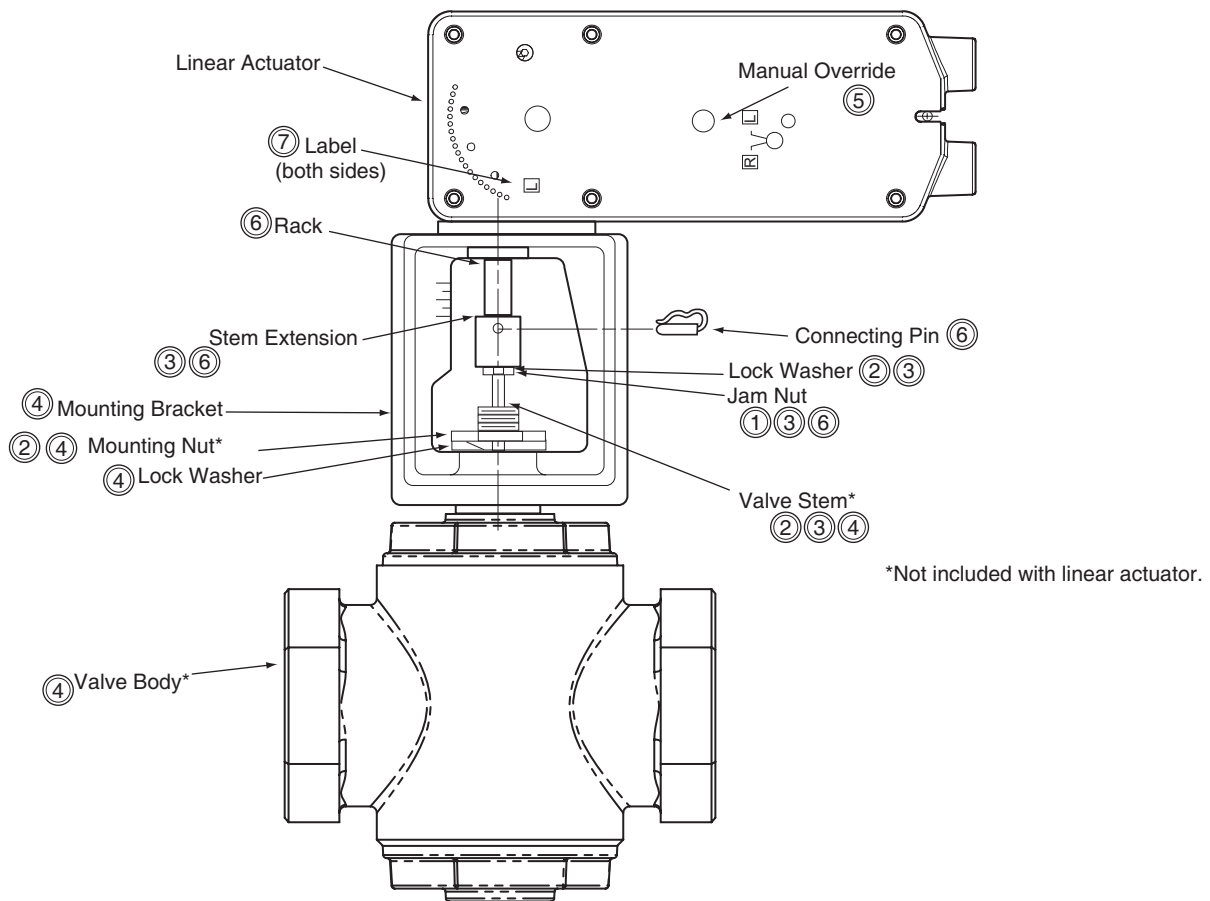

Figure-14 Typical Assembly and Installation.
- A. Install the actuator onto the valve. Set up the assembly according to the numbered steps in Figure-14.